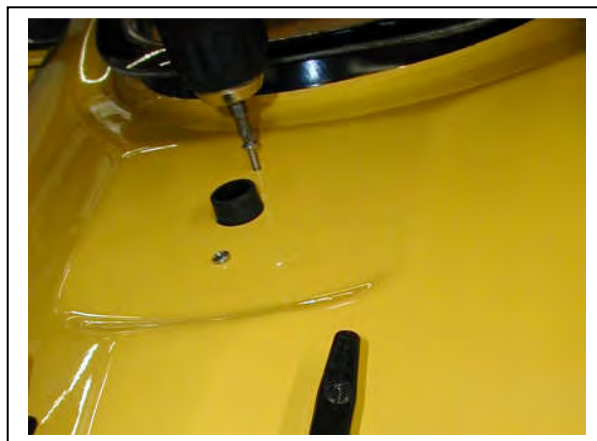

Fig. 9 – Installation of Trim Tab assembly.
a. Place the Trim Tab Housing under the deck in its desired location, with the Cable Adjustment Bolts towards the bow. Temporarily hold in place by threading in the two small #6 screws. (Fig. 9)
c. Insert Trim Tab assembly up through the deck hole, Cable Adjustment Bolts forward, and secure from above with the two $\frac{3}{4}$ " #6 screws and the large Fender Washers and small O-rings between the deck and Trim Tab Housing. Use marine sealant to create a water-tight seal for the large Trim Tab Knob hole. (Fig. 9)